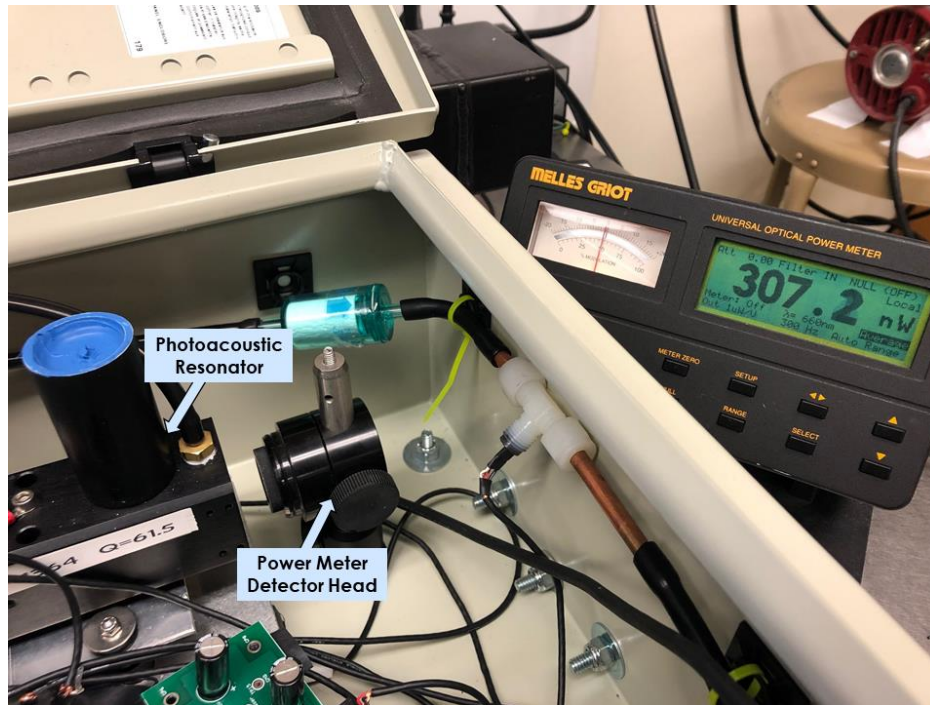

Figure 7. Optical power meter set up to measure laser power coming out of the photoacoustic resonator.
4. Set up a power meter on the opposite side of the resonator as shown in Figure 7 to measure the beam's power output. The beam and power meter need to be aligned with each other for an accurate power reading.